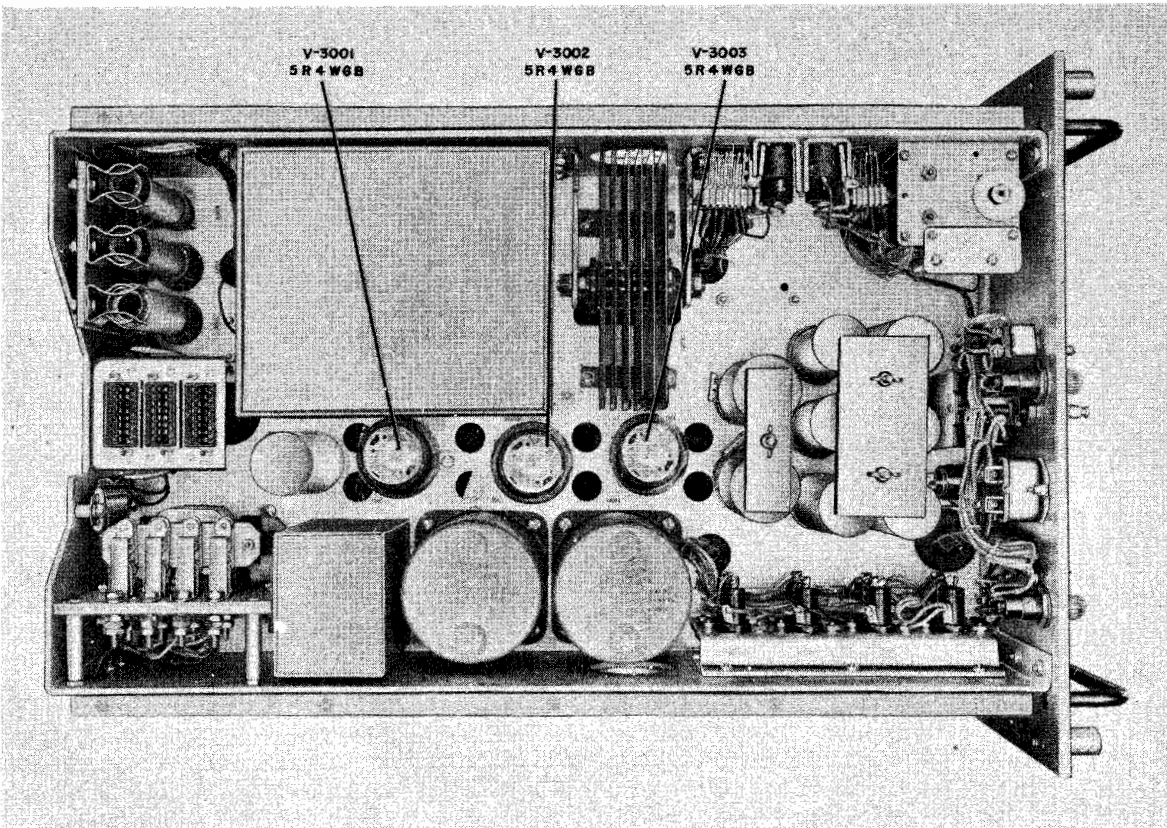

Figure 5-13. Power Supply PP-1094/SRT (LVPS), Top View, Tube Locations
21.	Power Supply PP-1094/SRT (LVPS). (See figure 5-13.)